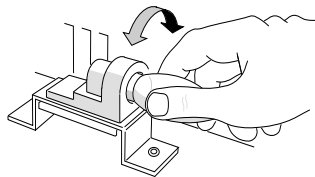

Fig. 2
- 1.2 Carefully rotate the lamp anti-clockwise ↺ until it comes out of its holder (see Fig. 2). Replace the defective lamp with a 240V, 40 watt E14 SES clear candle lamp, rotating the lamp clockwise ↻ in the holder until it is fully home. Do not overtighten.